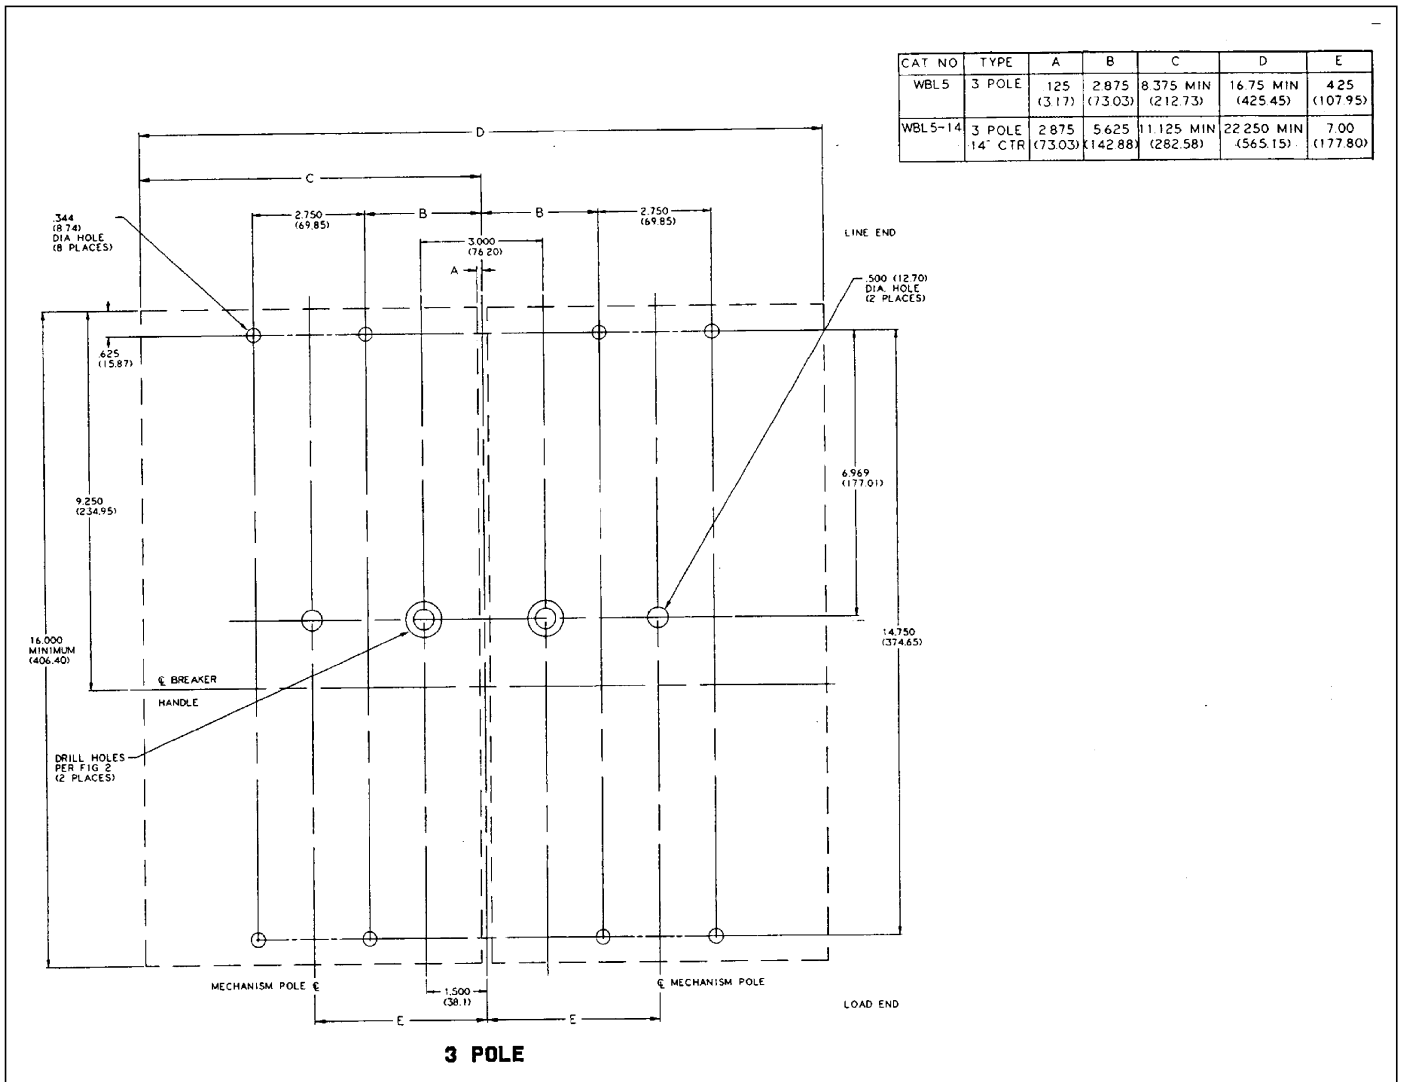
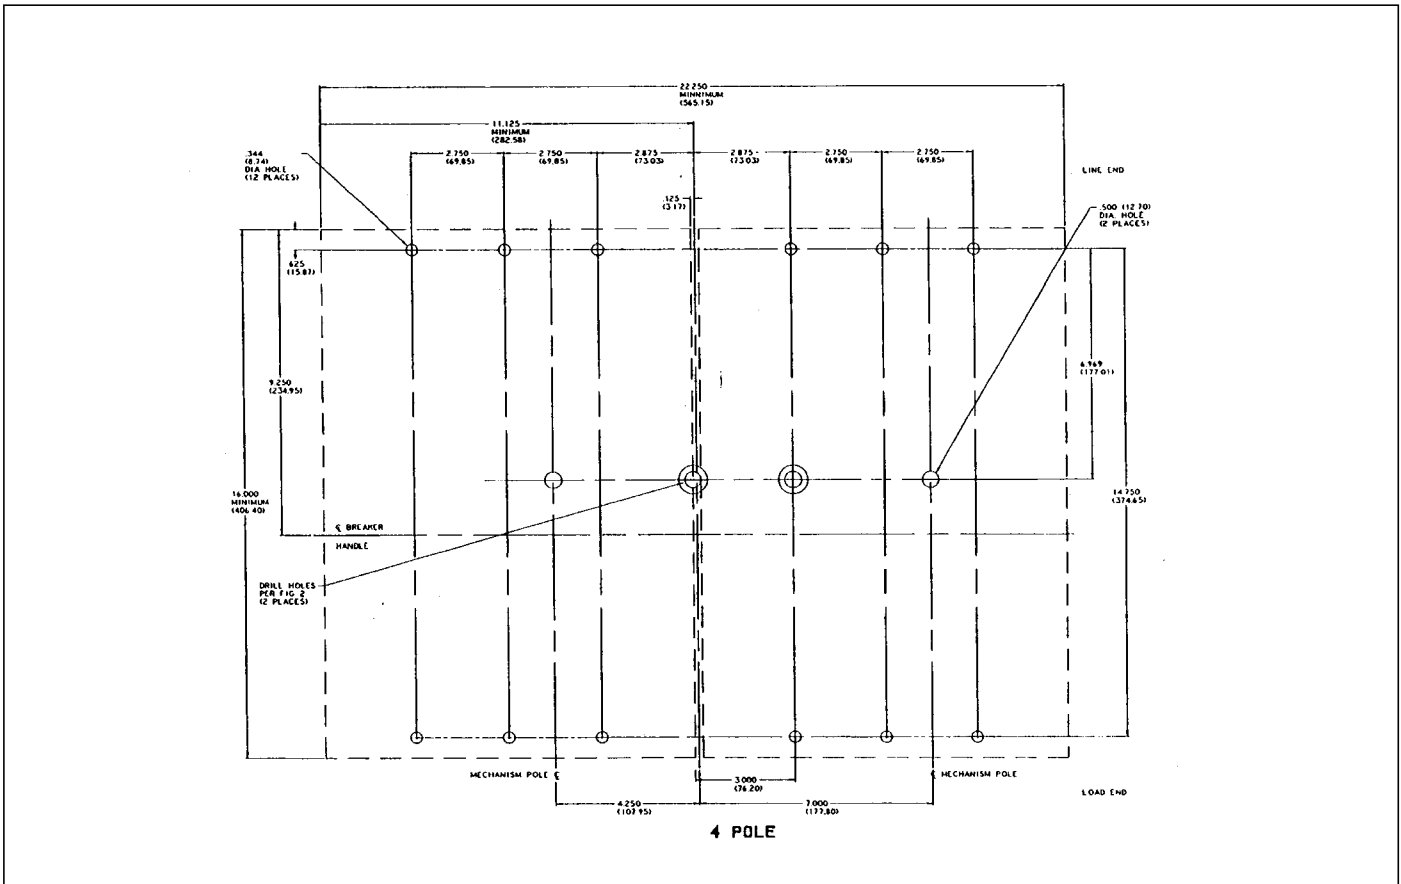

Fig. 2-2. N-Frame 3-Pole Circuit Breaker Mounting Panel Hole Sizes, and Dimensions
Fig. 2-3 N-Frame 4-Pole Circuit Breaker Mounting Panel Holes Sizes and Dimensions
- 2-1. Predrill circuit breaker mounting panel. Fig. 2-2 N-frame, (3-pole) and Fig. 2-3 N-frame, (4-pole) show mounting panel hole sizes and dimensions for Series C circuit breaker configurations. Dimensions are in inches and (millimeters).